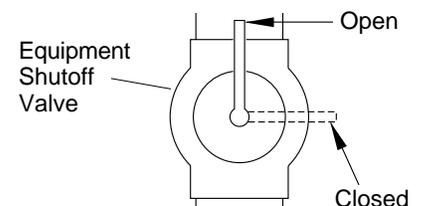

Figure 31 - Equipment Shutoff Valve
1. Close equipment shutoff valve (see Figure 31).
1. Open equipment shutoff valve (see Figure 31).